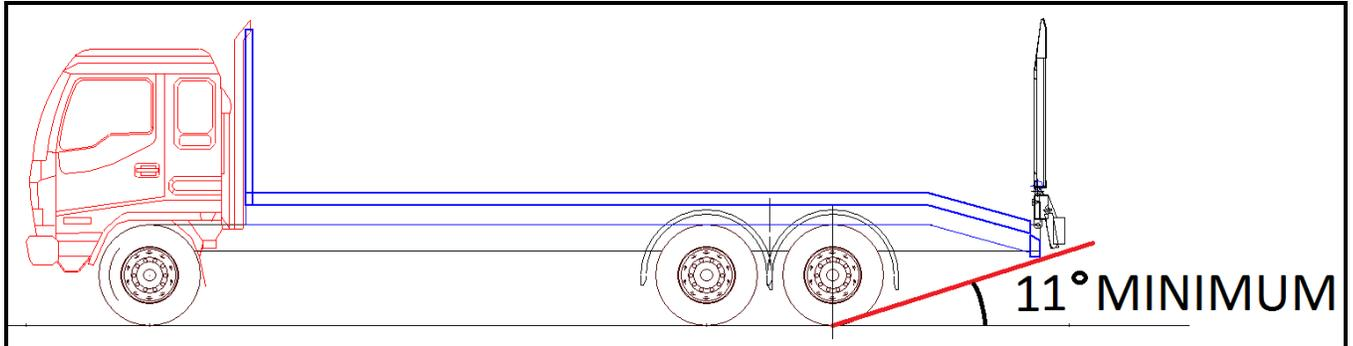

Figure 3: Departure Angle
1. The desired chassis angle is usually achieved by cutting a wedge out of the original chassis, bending the chassis downwards and re-welding. The departure angle of the vehicle cannot be less than 11° (**see Figure 3 for visual explanation**). All steel used for the tray and reinforcement should have a yield strength of at least 350MPa.